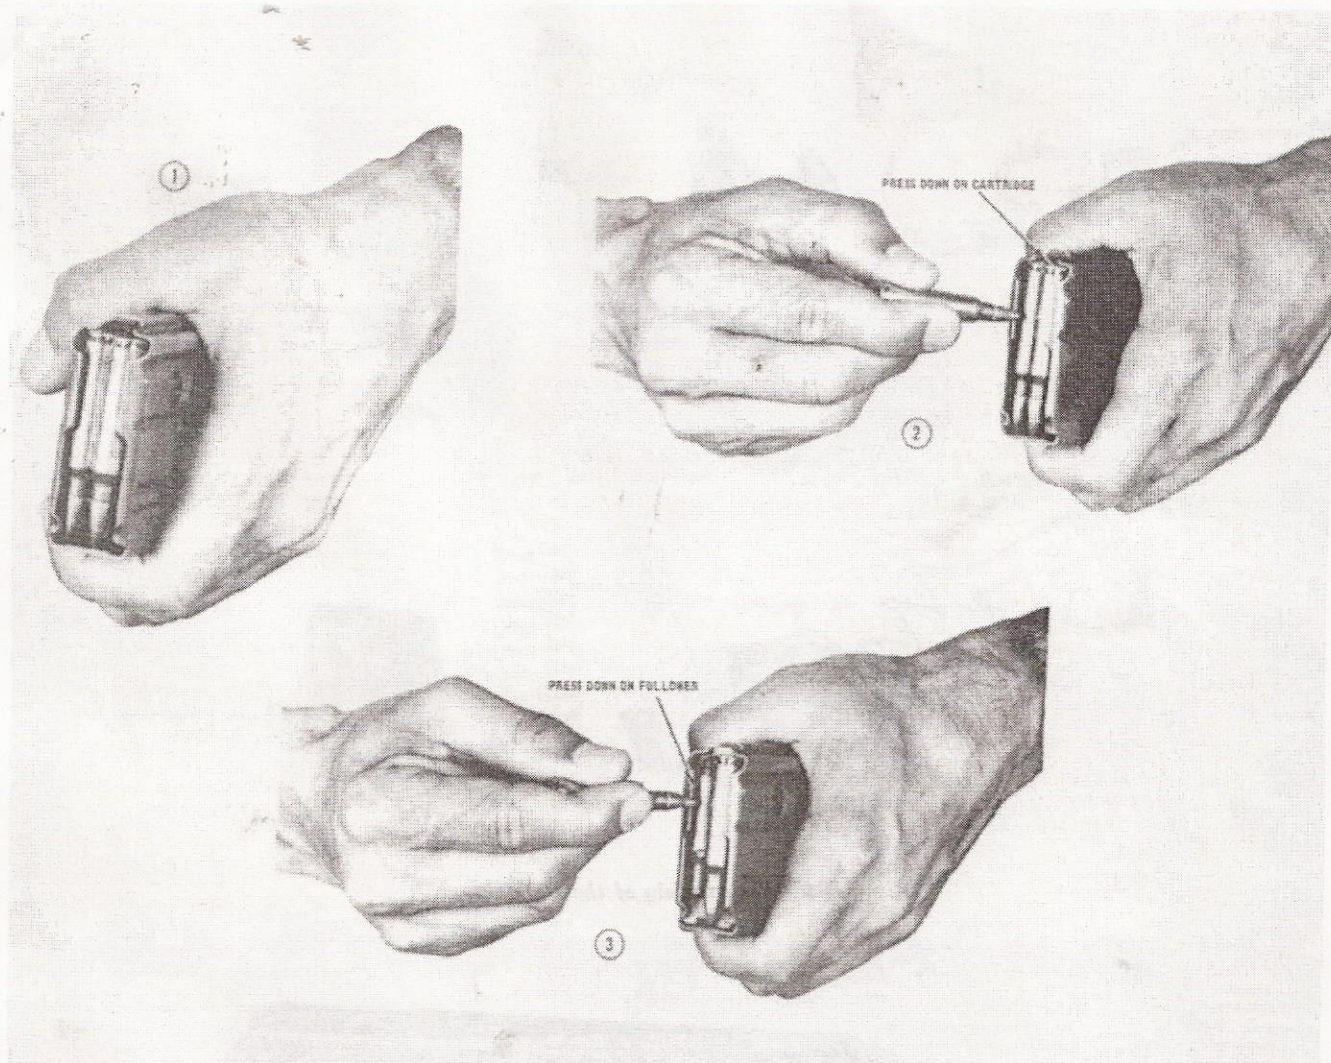

Figure 24. Unloading the magazine.
(1) Hold the magazine in the left hand with the open end away from the body, nose of the cartridge down (1, fig 24).
(2) Using the nose of a cartridge, depress the center of the second round in the magazine allowing the first round to drop out of the magazine (2, fig 24). This process is repeated until all rounds have been removed from the magazine except the last.
① Individually
(3) To remove the last round, use the nose of a cartridge and depress the follower allowing the last round to drop out of the magazine (3, fig 24).